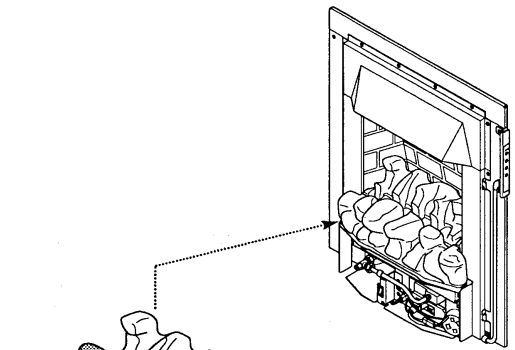

Fig. 28
1. Take 2 coals and place on the outer edges of the front coal moulding (Fig. 28).